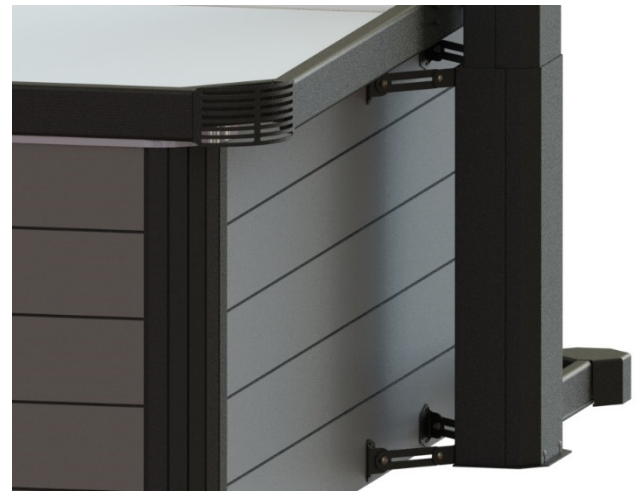

Figure 96
- 8) Once the Horizon cover is properly mounted to the spa, anchor both corner brackets to the ground using at least 1/4-2 in. screws. (Figure 96)